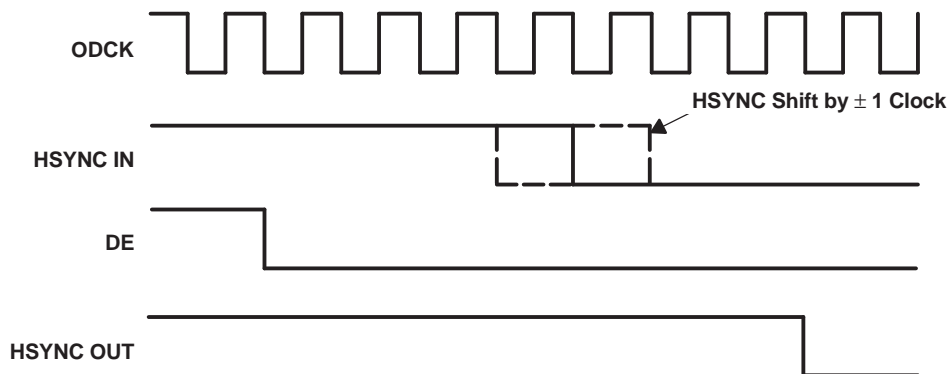

Figure 17. HSYNC Regeneration Timing Diagram
The TFP401A-Q1 integrates HSYNC regeneration circuitry that provides a seamless interface to these noncompliant transmitters. The regeneration circuitry always fixes the position of the data enable (DE) signal in relation to data, irrespective of the location of HSYNC. The TFP401A-Q1 receiver uses the DE and clock signals to recreate stable vertical and horizontal sync signals. The circuit filters the HSYNC output of the receiver and shifts HSYNC to the nearest eighth bit boundary, producing a stable output with respect to the data, as shown in Figure 17. This ensures accurate data synchronization at the input of the display timing controller.